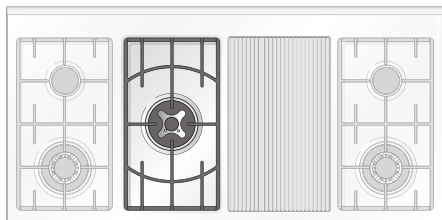

Fig. 4
Gas flow to the burners is adjusted by turning the knobs (illustrated in fig. 4) which control the valves.
- 1 – Push and turn the knob in an anti-clockwise direction up to the  position (maximum rate), push in and hold the knob until the flame has been lit (fig. 4).